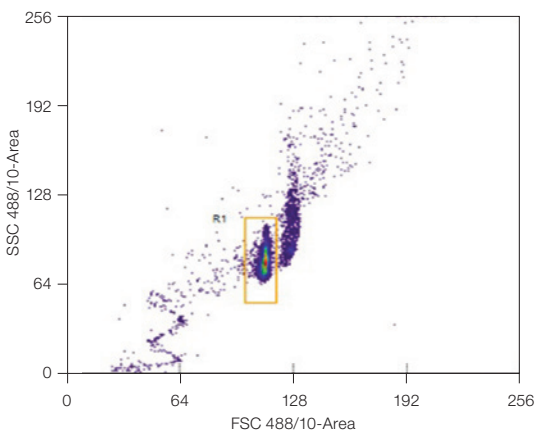

Fig. 1. Scatter plot showing gated bead population. FSC, forward scatter; SSC, side scatter.
9. Click “PMT Control” and select the 488 nm laser. Adjust the FSC 488/10 and SSC 488/10 PMTs until the singlet population of beads is in the center of the plot. Move and size R1 over the region to include only the singlet bead population (Figure 1). Peaks should now begin to appear in all histograms.